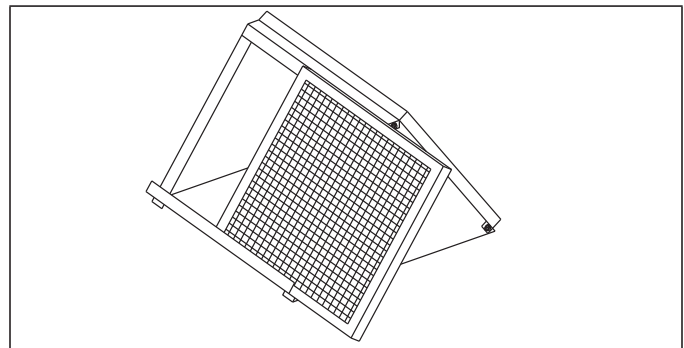

FIGURE 4: Mobile Home Filter Frame Accessories
- If a return air duct system and return plenum are required by state, local or regional codes then the return plenum may be connected to the furnace inlet and must terminate outside the space containing the furnace. The external air filter accessory shown in Figure 4 is designed and recommended for use inside the return plenum. Attach the return plenum to the furnace inlet duct flanges. This is typically through the use of S cleat material when a metal plenum is used. Installations where a return air duct system is utilized, the use of a listed flexible duct connector is recommended. The connection of the plenum to the furnace and all the ducts connecting to the plenum must be sealed to prevent air leakage. The sheet metal should be crosshatched to eliminate any popping of the sheet metal when the indoor fan is energized. The duct system is a very important part of the installation. If the duct system is improperly sized the furnace will not operate properly. The ducts attached to the furnace must be of sufficient size so that the furnace operates at the specified external static pressure and within the air temperature rise specified on the furnace nameplate and the air temperature rise is also specified in Table 6.